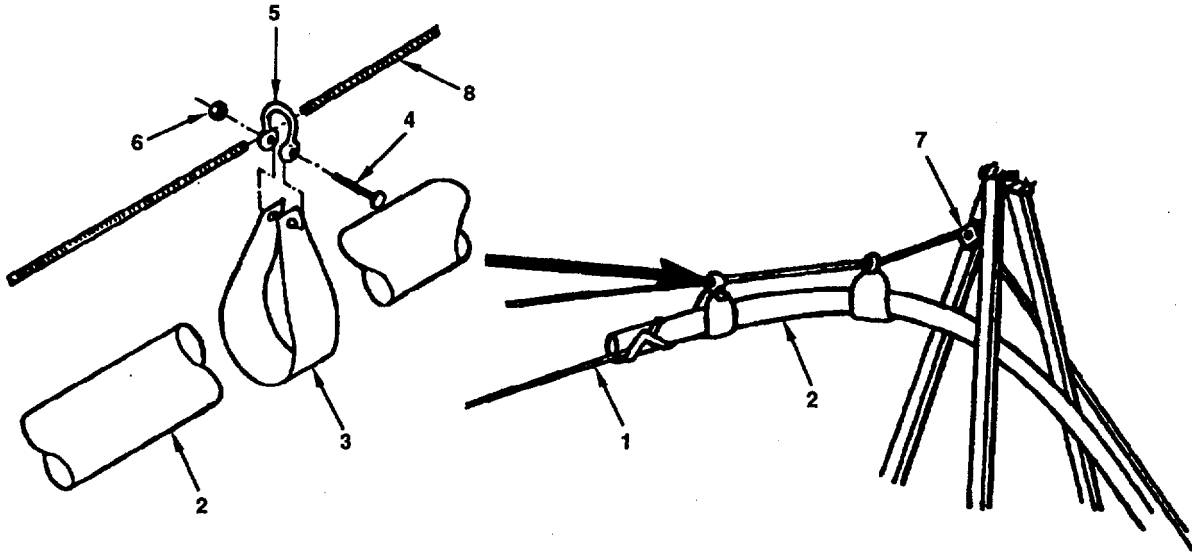
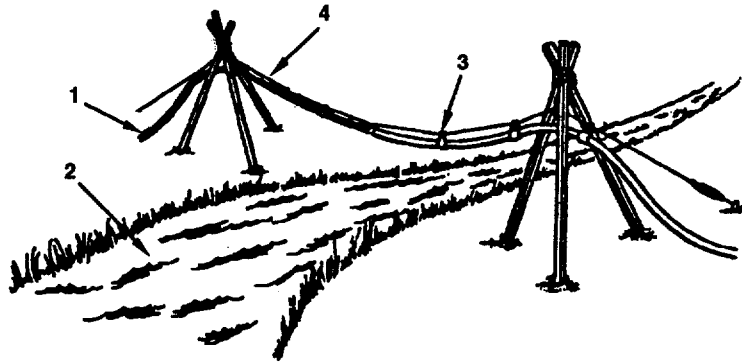

Figure 2-40. Saddle Installation.
Figure 2-41. Hoseline Installation.
- r. Tie manila rope (Figure 2-40, 1) to leading end of hoseline (2). Make sure manila rope (1) is long enough to cross span.
- s. Locate saddles (3), bolts (4), shackles (5) and nuts (6).
- t. Place shackle (5) over wire rope (8) beyond pulley (7) on span side.
- u. Lift hose (2) end and wrap saddle (3) around hose (2).
- v. Install bolt (4) through eyes of saddle (3), shackle (5), and nut (6). Tighten nut (6) until saddle assembly (3, 4, 5 and 6) is secured to wire rope (8).
- w. Using manila rope (Figure 2-40, 1), pull hoseline (Figure 2-41, 1) across stream (2), gap, or obstruction. Repeat steps p through t, attaching additional saddles (3) to hoseline (1) at 5 feet intervals. Saddles (3) will travel along wire rope (4), providing support for hoseline (1).